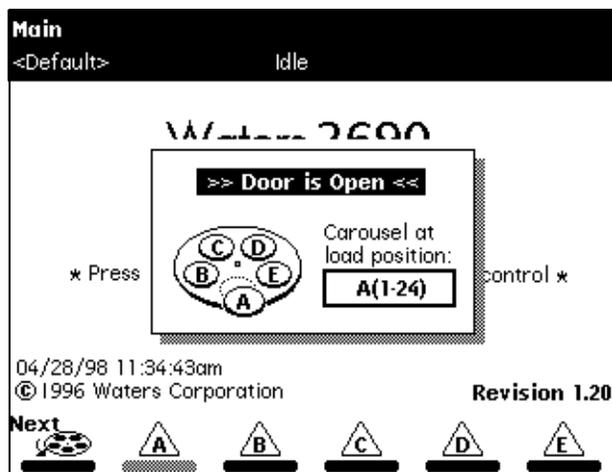

Figure 3-15 Door is Open Dialog Box
1. Open the carousel door. The Door is Open dialog box appears in the screen, as shown in Figure 3-15.